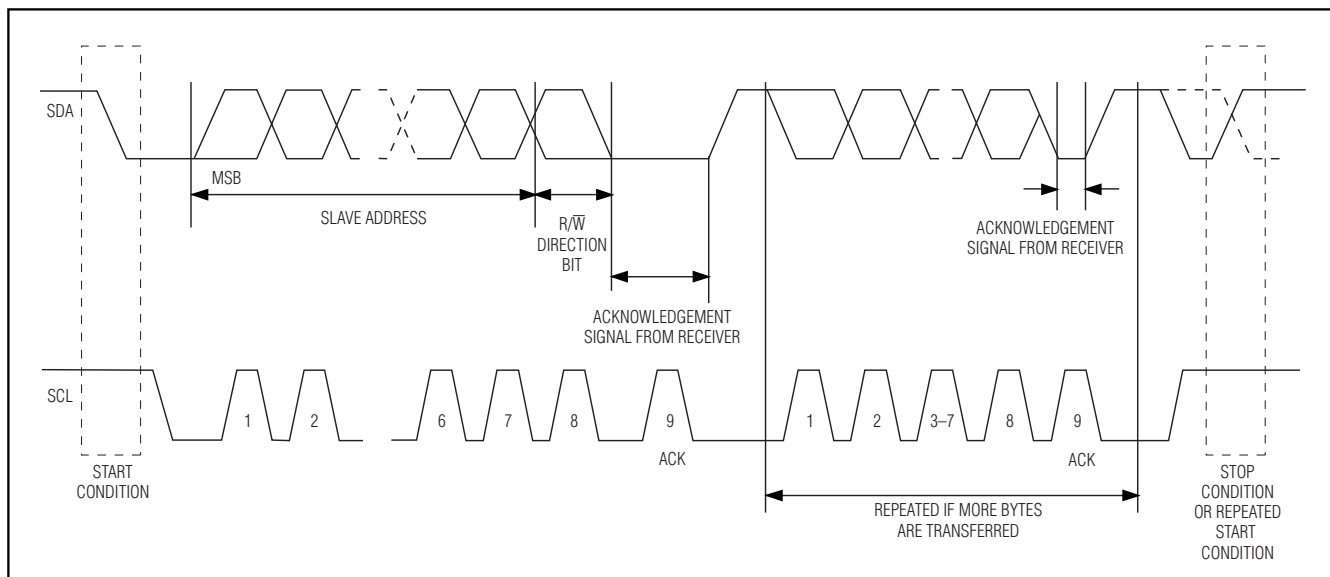

Figure 5. 2-Wire Data Transfer Protocol
**Clock and Data Transitions:** The SDA pin is normally pulled high with an external resistor or device. Data on the SDA pin may only change during SCL-low time periods. Data changes during SCL-high periods will indicate a start or stop condition depending on the conditions discussed below. See the timing diagrams in Figures 5 and 6 for further details.
**Start Condition:** A high-to-low transition of SDA with SCL high is a start condition, which must precede any other command. See the timing diagrams in Figures 5 and 6 for further details.
**Stop Condition:** A low-to-high transition of SDA with SCL high is a stop condition. After a read or write sequence, the stop command places the DS1854 into a low-power mode. See the timing diagrams in Figures 5 and 6 for further details.
slaves. The bus must be controlled by a master device that generates the serial clock (SCL), controls the bus access, and generates the start and stop conditions. The DS1854 operates as a slave on the 2-wire bus. Connections to the bus are made through the open-drain I/O lines SDA and SCL. The following I/O terminals control the 2-wire serial port: SDA, SCL. Timing diagrams for the 2-wire serial port can be found in Figures 5 and 6. Timing information for the 2-wire serial port is provided in the *AC Electrical Characteristics* table for 2-wire serial communications.
**Data valid:** The state of the data line represents valid data when, after a start condition, the data line is stable for the duration of the high period of the clock signal. The data on the line can be changed during the low period of the clock signal. There is one clock pulse per bit of data. Figures 5 and 6 detail how data transfer is accomplished on the 2-wire bus. Depending upon the state of the R/W bit, two types of data transfer are possible.